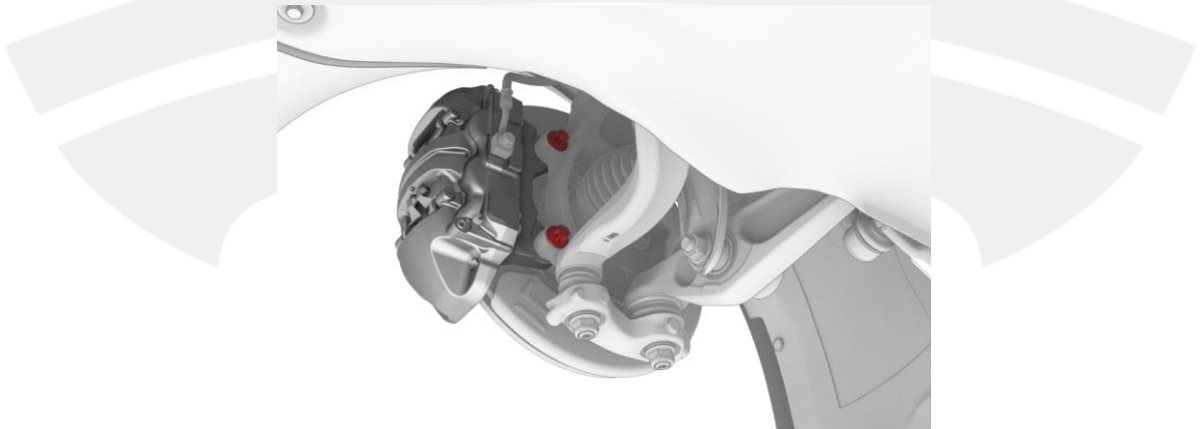

Figure 1 – Front caliper shown; rear caliper similar
**NOTE:** If using Warp Service, note damage in the “Cause Narrative” field of the Repair Order (RO).
5. Inspect the LH front brake caliper mounting bolts (Figure 1).